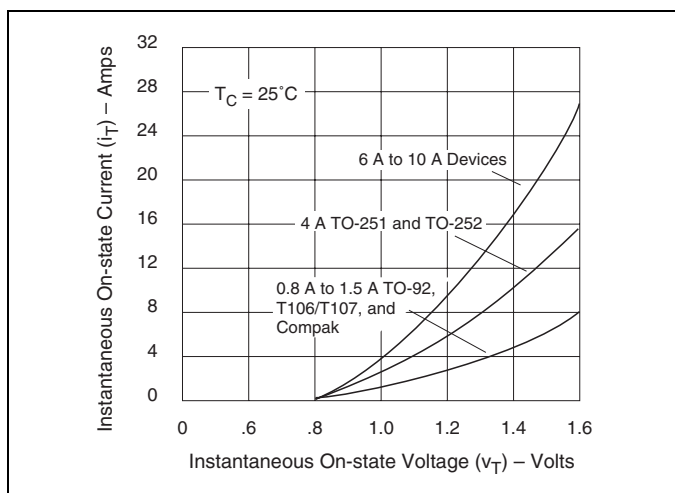

Figure E5.11 Instantaneous On-state Current versus On-state Voltage (Typical)
- See Figure E5.11 for instantaneous on-state current (I_T) versus on-state voltage (V_T) TYP.